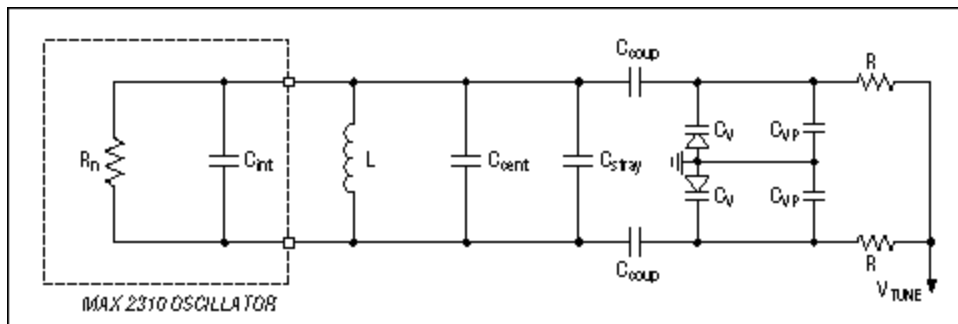

Figure 3. Lumped Cstray model.
**Figure 3** shows the lumped  $C_{stray}$  VCO model. Parasitic capacitance and inductance plague every RF circuit. In order to predict the frequency of oscillation, the parasitic elements must be taken into account. The circuit in Figure 3 lumps the parasitic elements in one capacitor called  $C_{stray}$ . The frequency of oscillation can be characterized by EQN2: